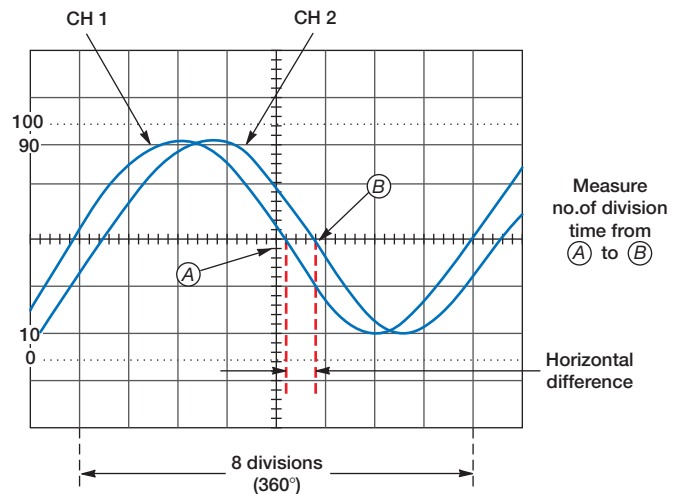

Figure 26-19 Oscilloscope phase-shift measurement.
8. Measure the horizontal difference between corresponding points of each waveform on the horizontal graticule line as shown in Fig. 26-19.
As an example, Fig. 26-19 displays a difference of 0.6 division at 45° per division. The phase shift = $(0.6 \text{ div}) \times (45^\circ/\text{div}) = 27^\circ$.